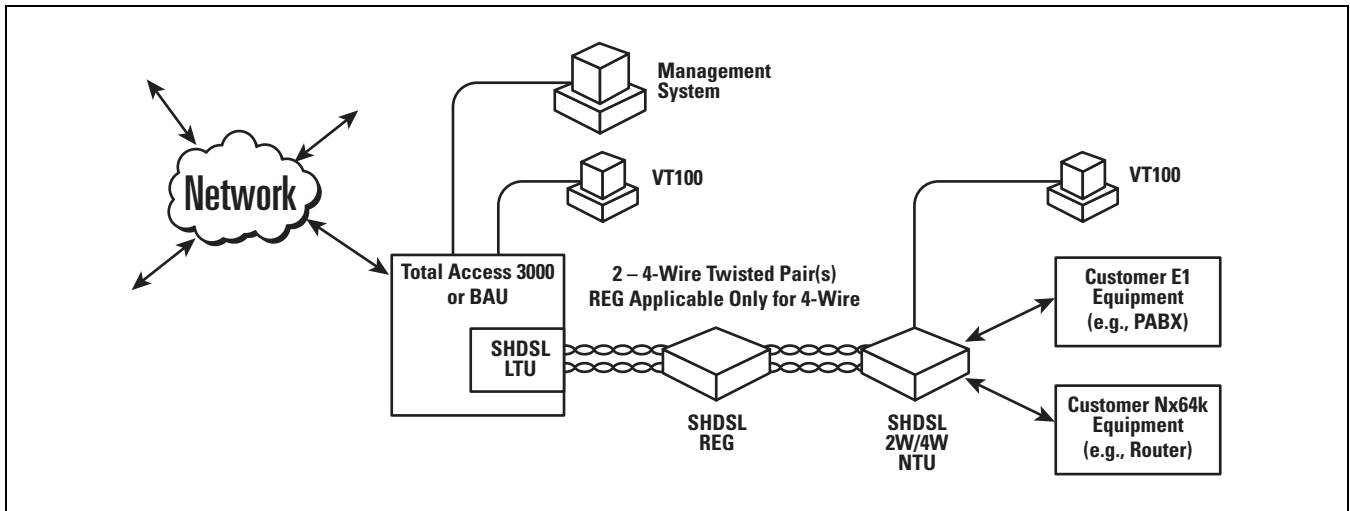

Figure 1. Typical System Application
- As a remote unit to the ADTRAN Total Access® 3000 (see Figure 1).